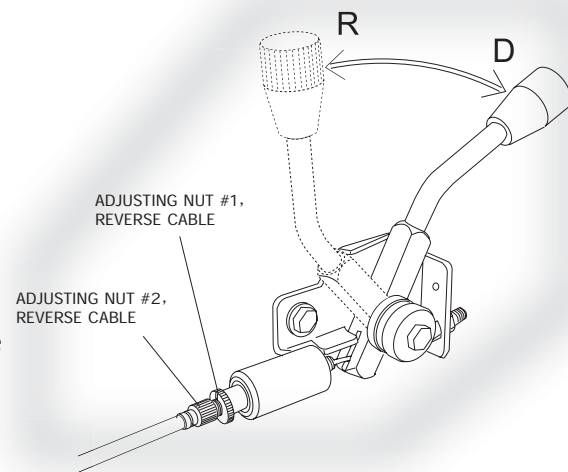

Figure 4
a. Push forward the reverse lever to the "D" position so that the unit can move forward, pull back the lever to "R" so that the unit can move backward. (See Fig.4)